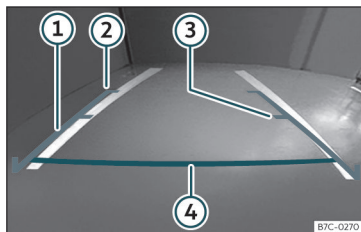

Fig. 193 On the Infotainment system screen.: guide lines.
- Vehicle load modifies the representation of the guide lines»» Fig. 193. The width
Meaning of the orientation lines»» Fig. 193